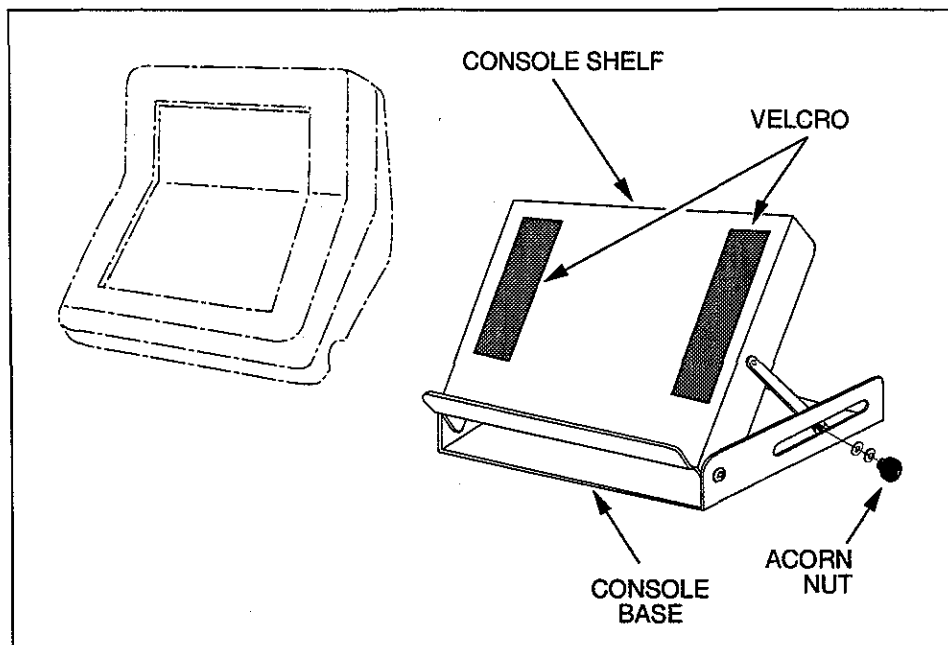

Figure 2-11
1. Position the shelf base in the vertical plane. Using a 7/16-inch wrench, loosen the 1/4-20x7/16 acorn nut on each side of the assembly. Lower the shelf to a position approximately perpendicular to the shelf base. See Figure 2-11.
1. Use a 7/16-inch wrench to loosen the 1/4-20x7/16 acorn nut on each side of the assembly. Raise the shelf to a position approximately perpendicular to the shelf base. See Figure 2-11.